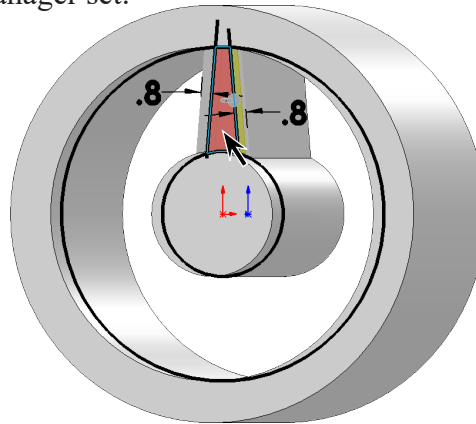

Fig. 24
Step 9. Rotate view to **view depth of cut**, Fig. 24. Use **Left Arrow** key  once.
click **contour**, Fig. 24